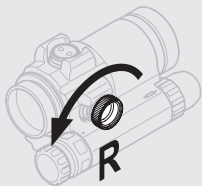
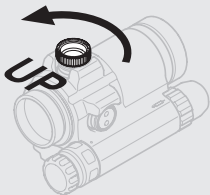

Fig. 3 Windage adjustments
Fig. 4 Elevation adjustments
- d** The adjustment cap (6) or the tool (14 A) must be used to turn the adjustment screws (8) and (9). Place the knobs on the adjustment cap (6) into the recesses on the adjustment screws (8) and (9).
- e** Windage adjustments (see Fig. 3):
- Turn windage adjustment screw (8) counterclockwise to move point of impact to the right.
- Turn windage adjustment screw (8) clockwise to move point of impact to the left.
- f** Elevation adjustments (see Fig. 4):
- Turn elevation adjustment screw (9) counterclockwise to move point of impact up.
- Turn elevation adjustment screw (9) clockwise to move point of impact down.